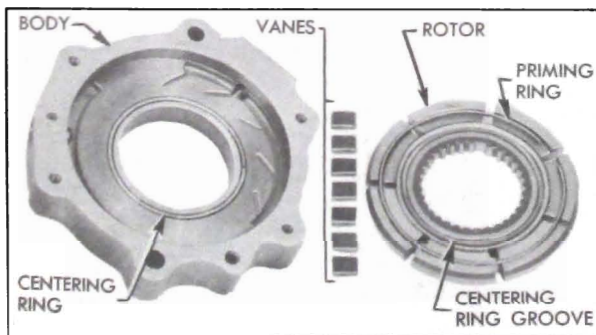

Figure 6-36—Differential Pump Parts
1. Remove cover plate. Then remove rotor, vanes, priming ring and centering ring. See figure 6-36.